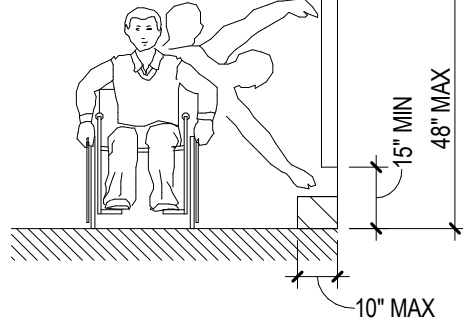

Figure 308.2.1 Unobstructed forward reach
A. Where a forward reach is unobstructed, the high forward reach shall be 48" maximum and the low forward reach shall be 15" minimum above the finish floor or ground. (Fig. 308.2.1)
A. Where a clear floor or ground space allows a parallel approach to an element and the side reach is unobstructed, the high side reach shall be 48" maximum and the low side reach shall be 15" minimum above the finish floor or ground. (Fig. 308.2.1)